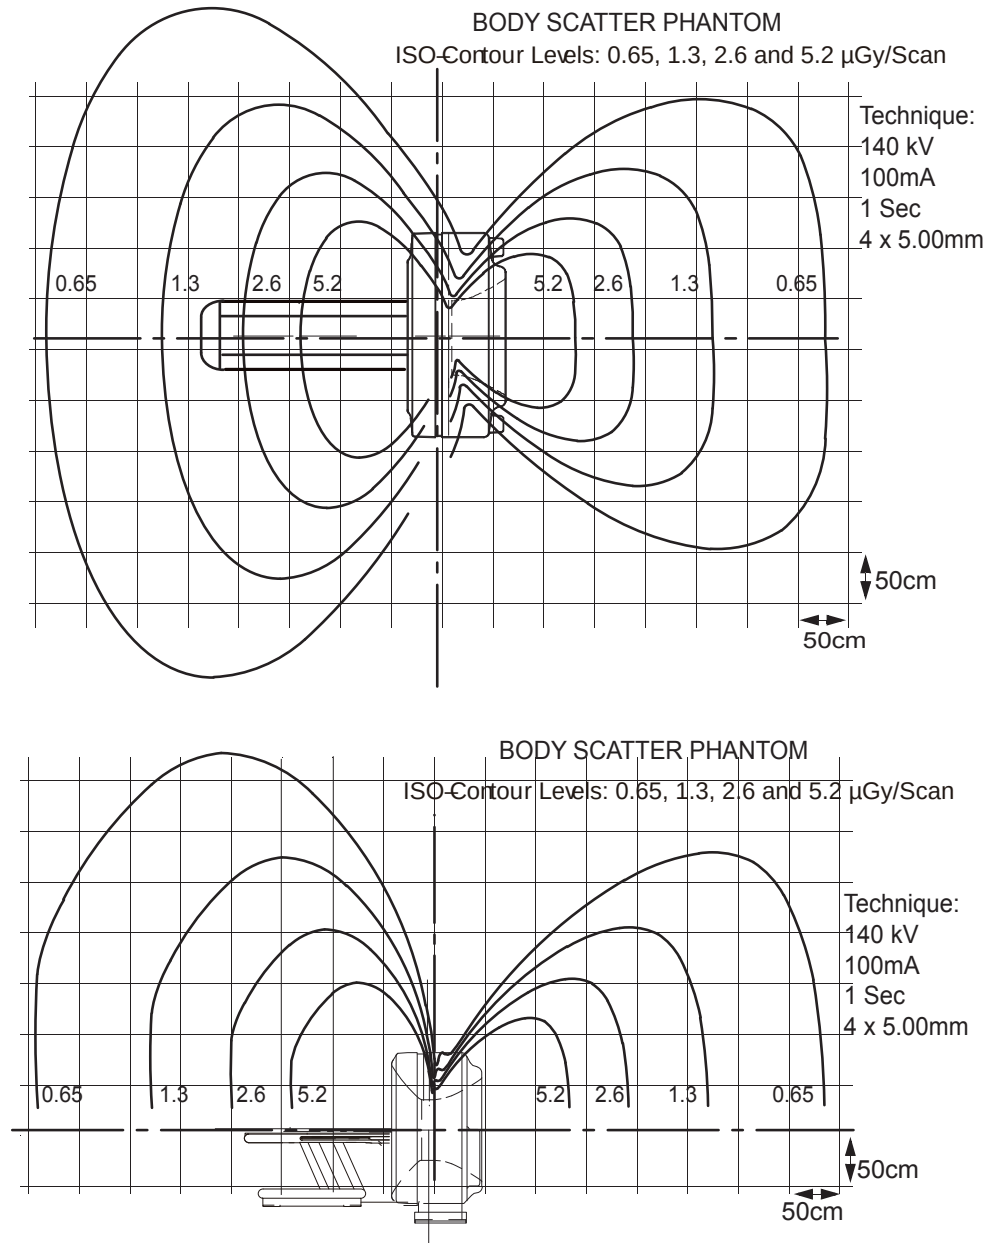

Figure 4-15 Typical Scatter Survey (Body Filter)
- Scatter radiation levels within the scanning room (see Figure 4-15)